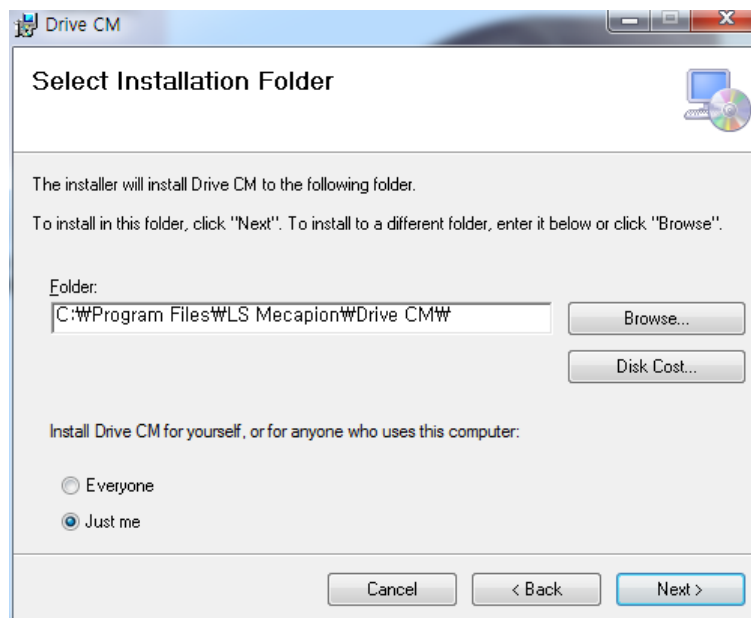

Figure 2-1.3
- (3) Select the installation folder for Drive CM, as shown in Figure 2-1.3.